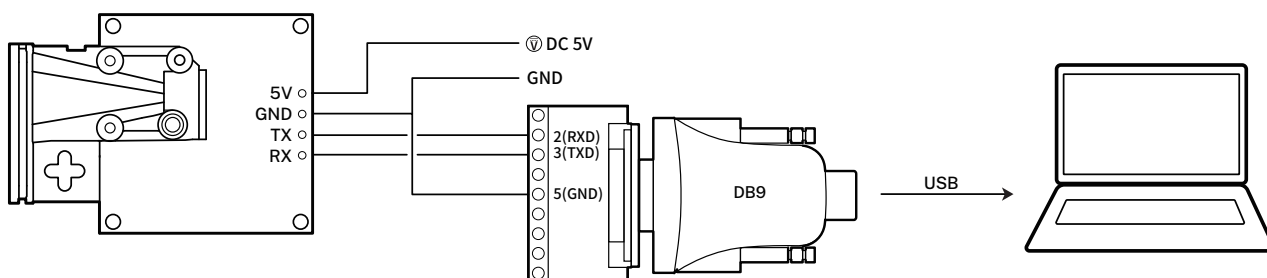

Figure 5. L4 to DB9 wiring diagram
- As shown in Figure 5, externally supply DC5V to the L4 module. Ensure that the DB9 adapter cable shares a common ground with the module.